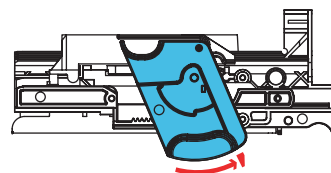

Figure 4-14
7. Twist the closing lever back and the brewer will close (see figure 4-14).